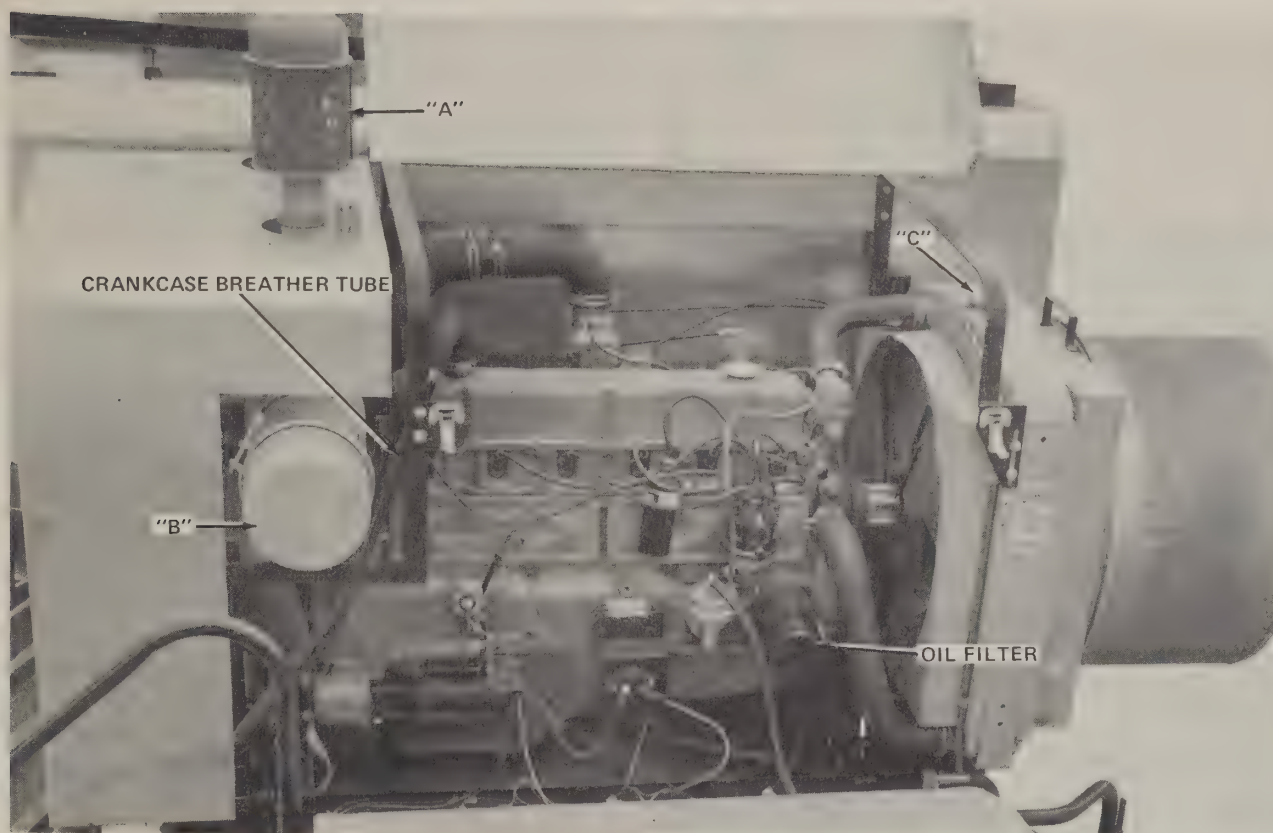

FIG. 23
A. AIR INTAKE PRE-CLEANER (Fig. 23)
B. AIR CLEANER - DRY TYPE (Figs. 23 & 24)
C. COOLANT CAPACITY - Capacity 17qts. (Fig. 23)
F. OIL FILTER (Fig. 23)